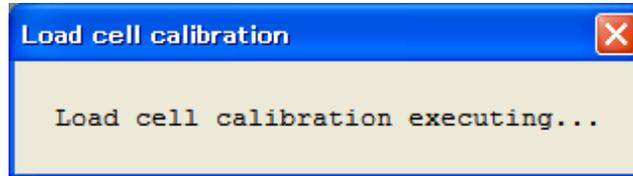

Fig. 10.18 Load Cell Calibration In-Progress Message
- (1) The message “Load cell calibration executing...” (Fig. 10.18) appears and the calibration is performed.